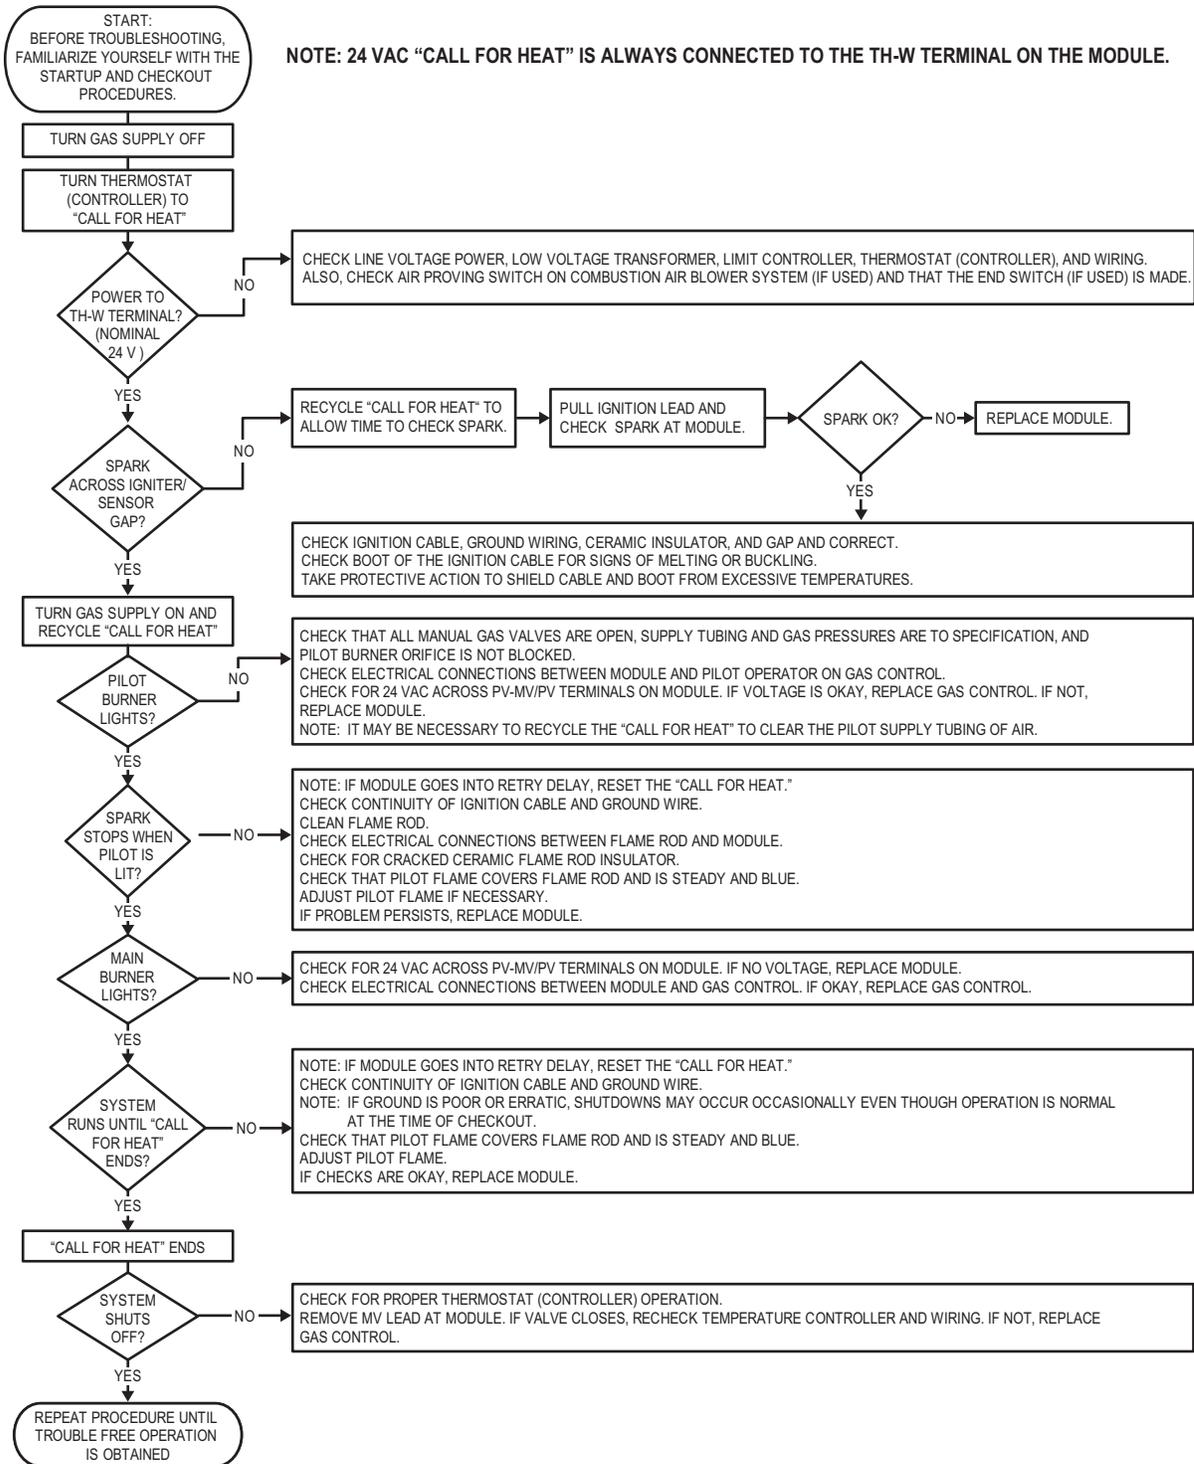

Fig. 22. Troubleshooting Guide.
- e. If main burner doesn't light or if main burner lights but system locks out, check the ignition control module's ground wire and the gas control as described in "Ignition System Checks" on page 17 and refer to the Troubleshooting Guide (Fig. 22 on page 21).
Refer to the Fig. 22 for troubleshooting the S8610U control module.